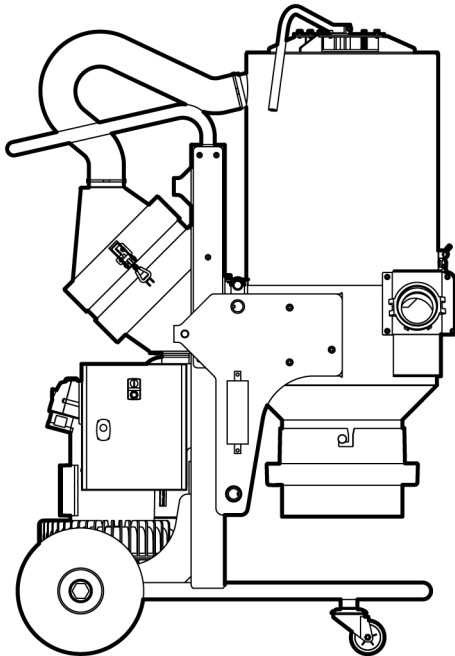
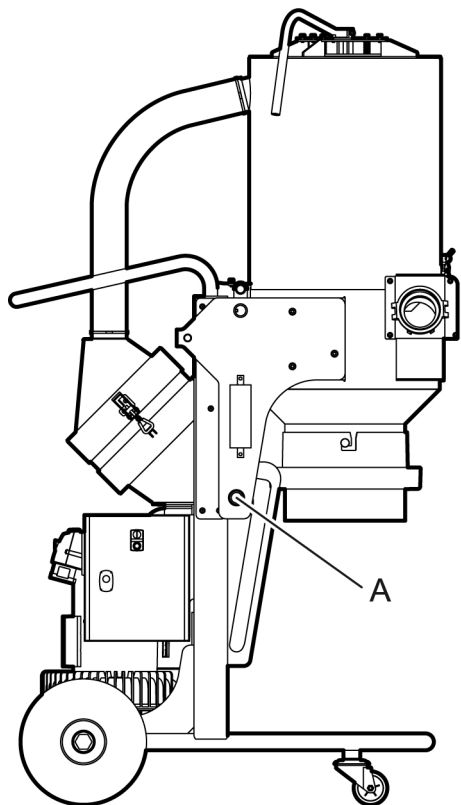
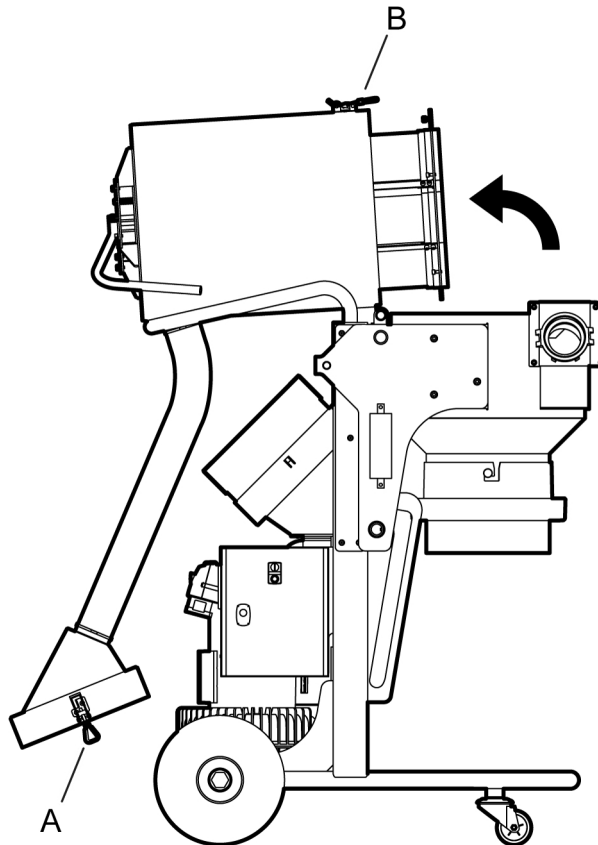

Figure 4-1. Transport position
Figure 4-2. Operating position
Figure 4-3. Lower to the service position
The dust extractor can be placed in three positions; transport position, operating position and service position (replacement of sock filter), see *Figure 4-1, page 12*, *Figure 4-2, page 13* and *Figure 4-3, page 14*.
The dust extractor can be lowered to the transport position, see *Figure 4-1, page 12*.
When the dust extractor is in use, it must be in the operating position, see Figure 4-2, page 13.
- Raise the cylinder packet up from the transport position, by gripping it under the cylinder section and pushing up the whole guide packet in the guide slot. Make sure that the cylinder packet drops in and lies in the guide slot's upper position, see position A in Figure 4-2, page 13.
The dust extractor can be lowered to the service position by releasing the upper cylinder section from the lower cylinder section, see Figure 4-3, page 14.
Start with the dust extractor in the operating position, see Figure 4-2, page 13. Then follow the instruction below:
1. Release the two quick fasteners (see position A in *Figure 4-3, page 14*) that hold the absolute filter in place. Let the holder and hose hang freely behind the side duct fan, see *Figure 4-3, page 14*.
2. Release the quick fastener (see position B in *Figure 4-3, page 14*) that holds the upper and lower cylinder sections together, and then carefully tip the upper section towards the handle, see *Figure 4-3, page 14*.
When fitting Longopac bags, it is recommended that the dust extractor is in the operating position, see Figure 4-2, page 13.